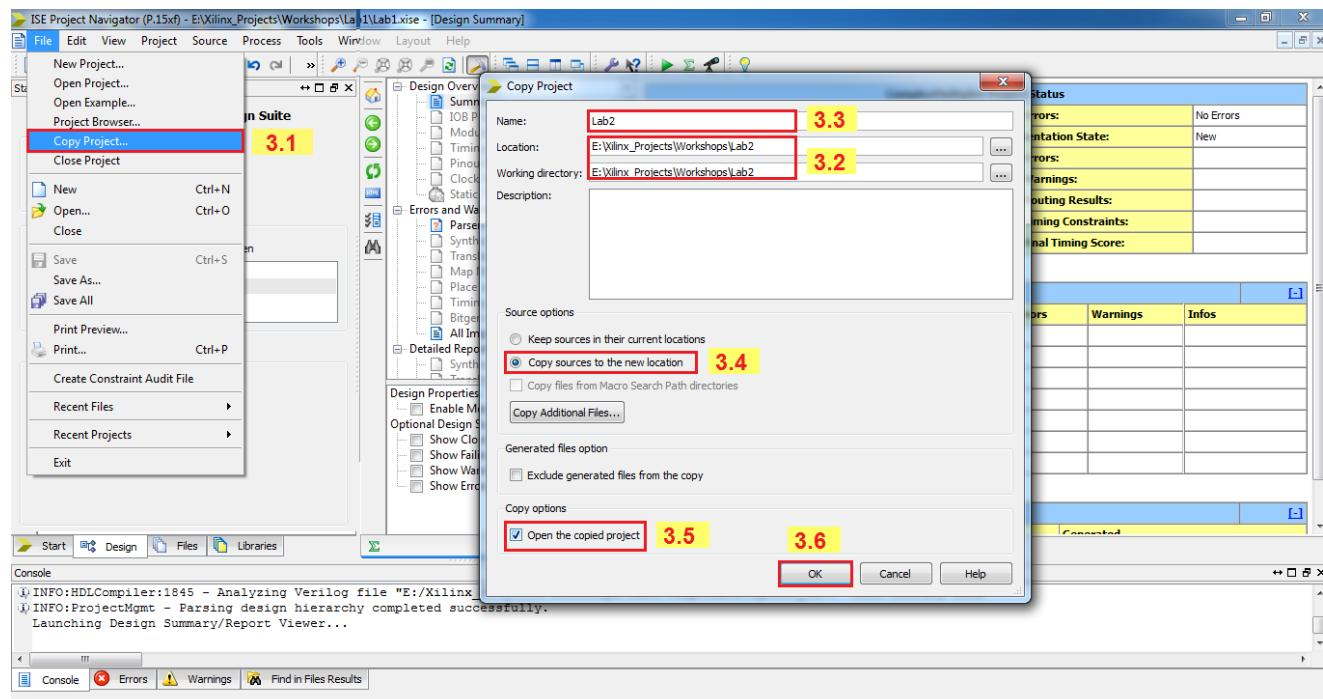

Figure 4.
3. Copy the project (Figure 4)